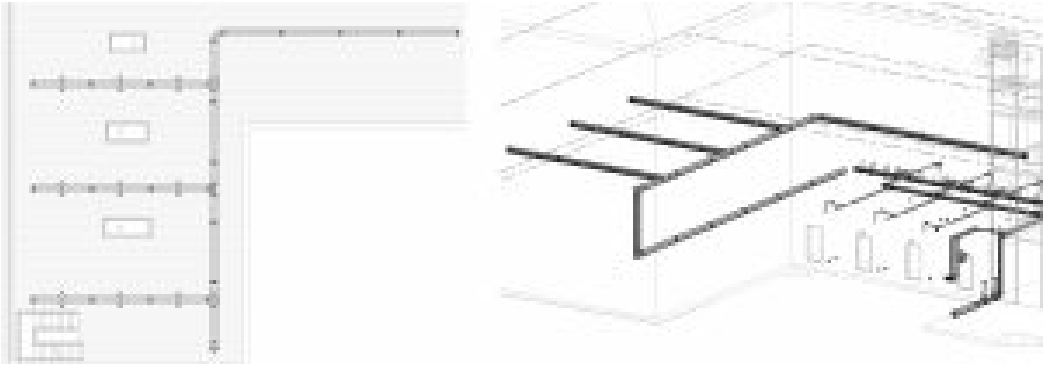

Figure 15.16 Round ductwork shown in 2 – Mech FP and in 3D view
3. In the 1 – Mech FP view place a line of round ducts along the first floor open workspace as shown in Figure 15.16
10. Place endcaps at the ends of the ductwork and a series of Conical caps to distribute air. See Figure 15.16 for reference.